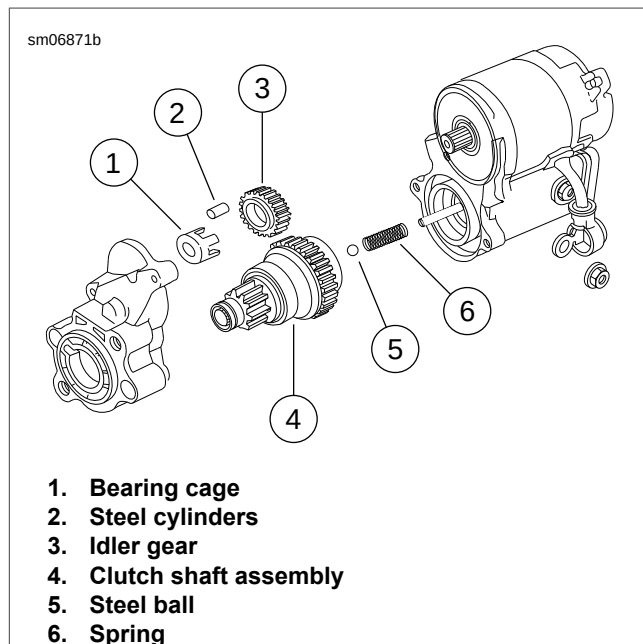

Figure 6-23. Starter Clutch Assembly
2. See Figure 6-23. Install the bearing cage (1) with the five steel cylinders (2).
3. Install the idler gear (3) over the bearing cage.
4. Match the gear teeth to the idler gear and install the clutch assembly (4) in the housing. Seat the bearing in the counterbore.
5. Install the steel ball (5) in the bore of the shaft.
6. Apply a light film of LUBRIPLATE 110 to solenoid plunger shaft. Install return spring (6) on solenoid plunger shaft.